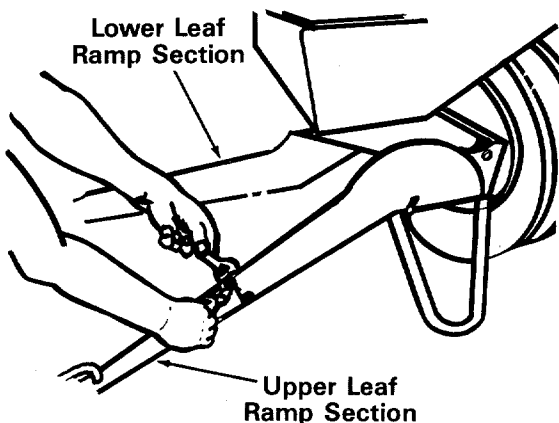

FIGURE 5.
4. Place upper leaf ramp section inside the lower leaf ramp section. Secure with four hex bolts (A) and hex lock nuts (B). Tighten securely. See figure 5.